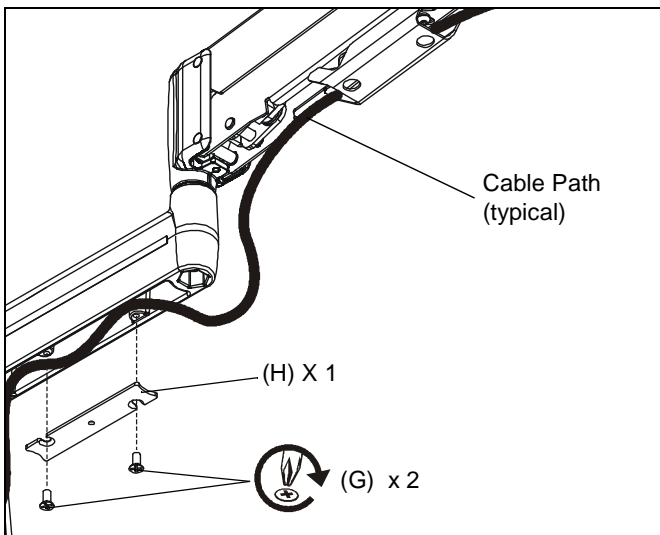

Figure 10
5. Carefully insert cables in cavity located in lower portion of mount arm (See Figure 10).
6. Using Phillips screwdriver, install cover (H) with two screws (G).